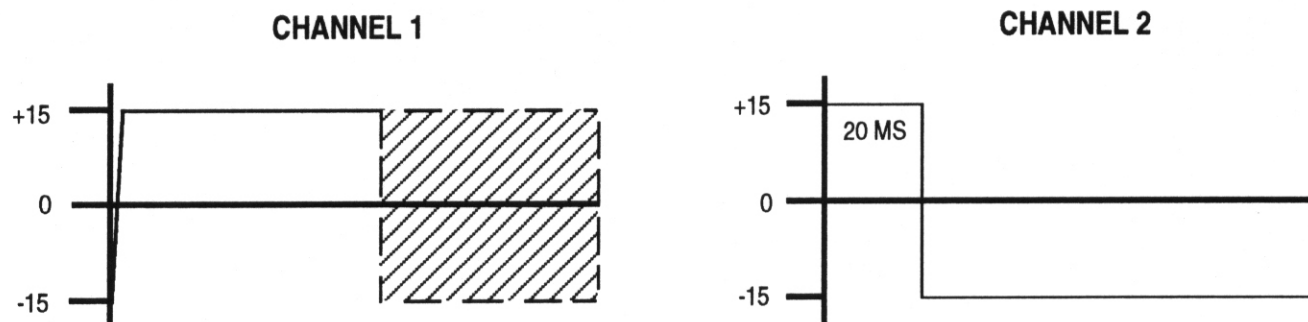

FIGURE 4 Auxiliary Source Voltage Loss
7. The signal on channel 1 should immediately go high from -15 V to +15 V, and channel 2 should go high after 20 ms. See Figure 4.